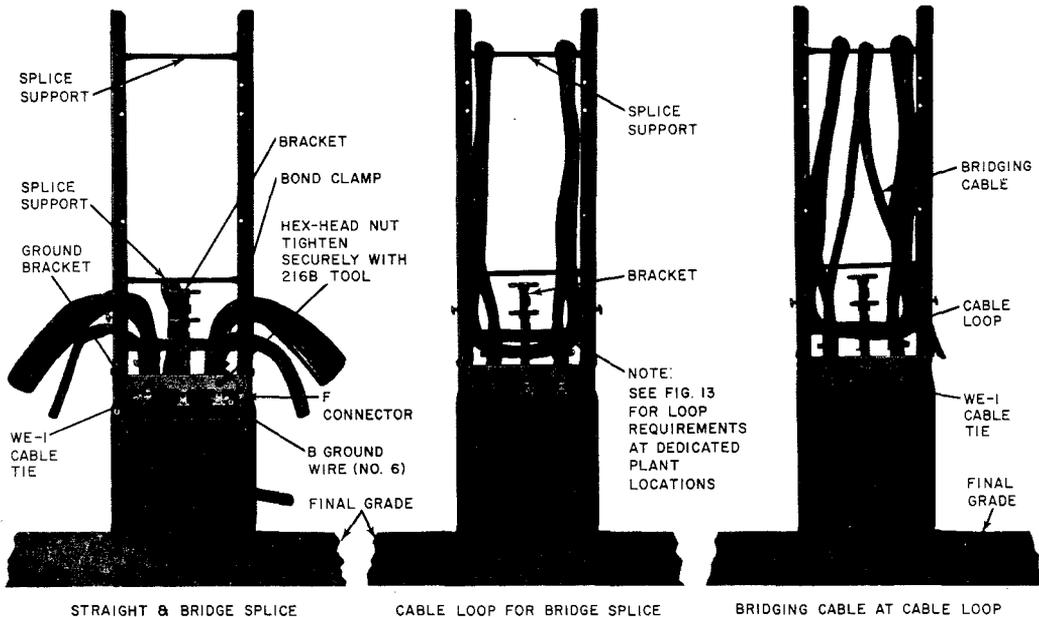

Fig. 21—Cable Installed in Closure
- 7.03** The cable is installed in the closure as outlined in 6.06 and Fig. 21.